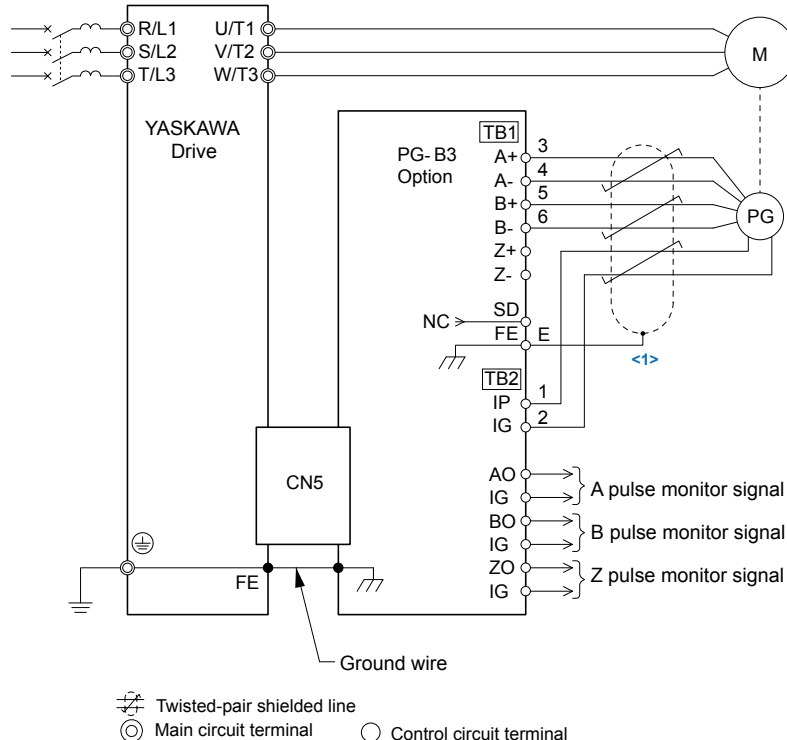
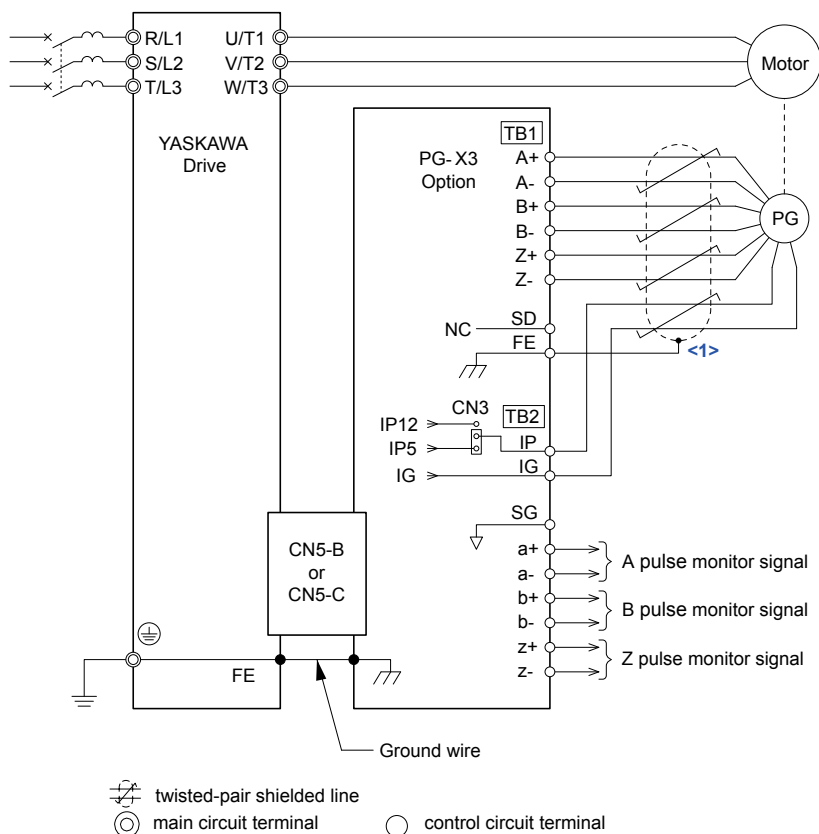

Figure 8.9 PG-B3 Option and Encoder Connection Diagram
Figure 8.13 PG-X3 Option and Encoder Connection Diagram
5. Wire the motor PG encoder to the terminal block on the option. Refer to Figure 8.9 and Figure 8.13 for wiring instructions.